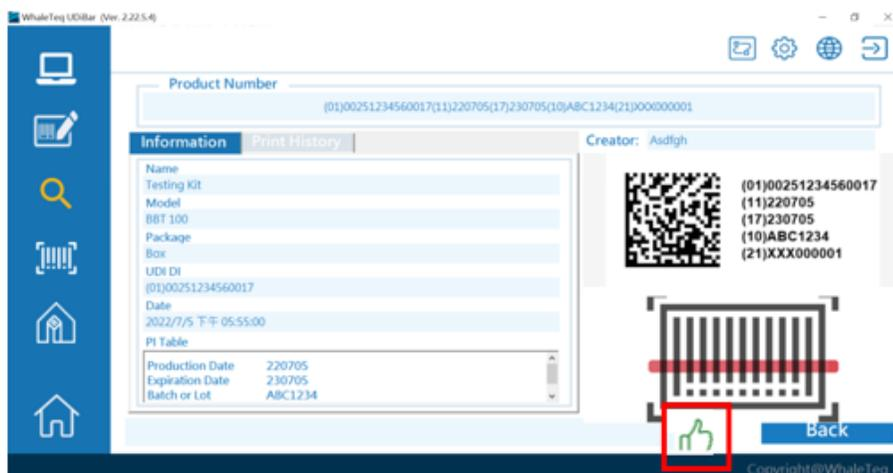
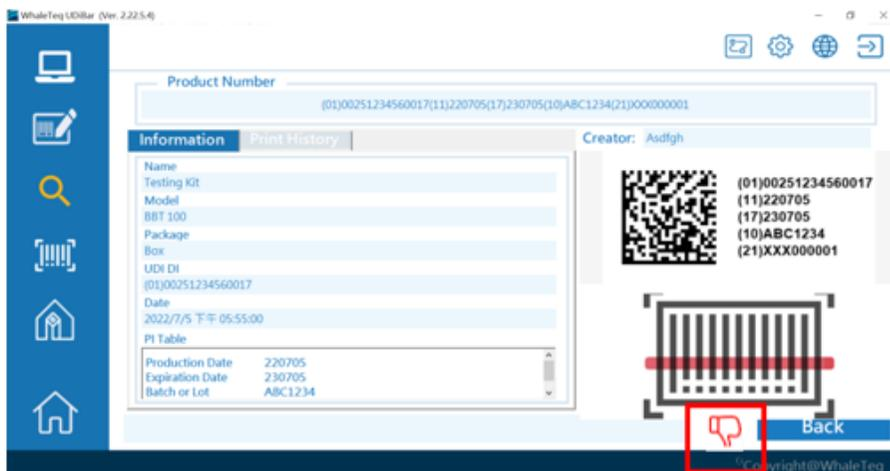

Figure 91: View product details
Figure 92: Scan barcode to verify
- (5) At the same time, you can also verify barcode on this page. Point the scanner at the printed barcode for verification. If there is a green thumb up, it means that the barcode meets the standard (Figure 91); if a red thumb appears down, it means the barcode does not meet the standard (Figure 92).